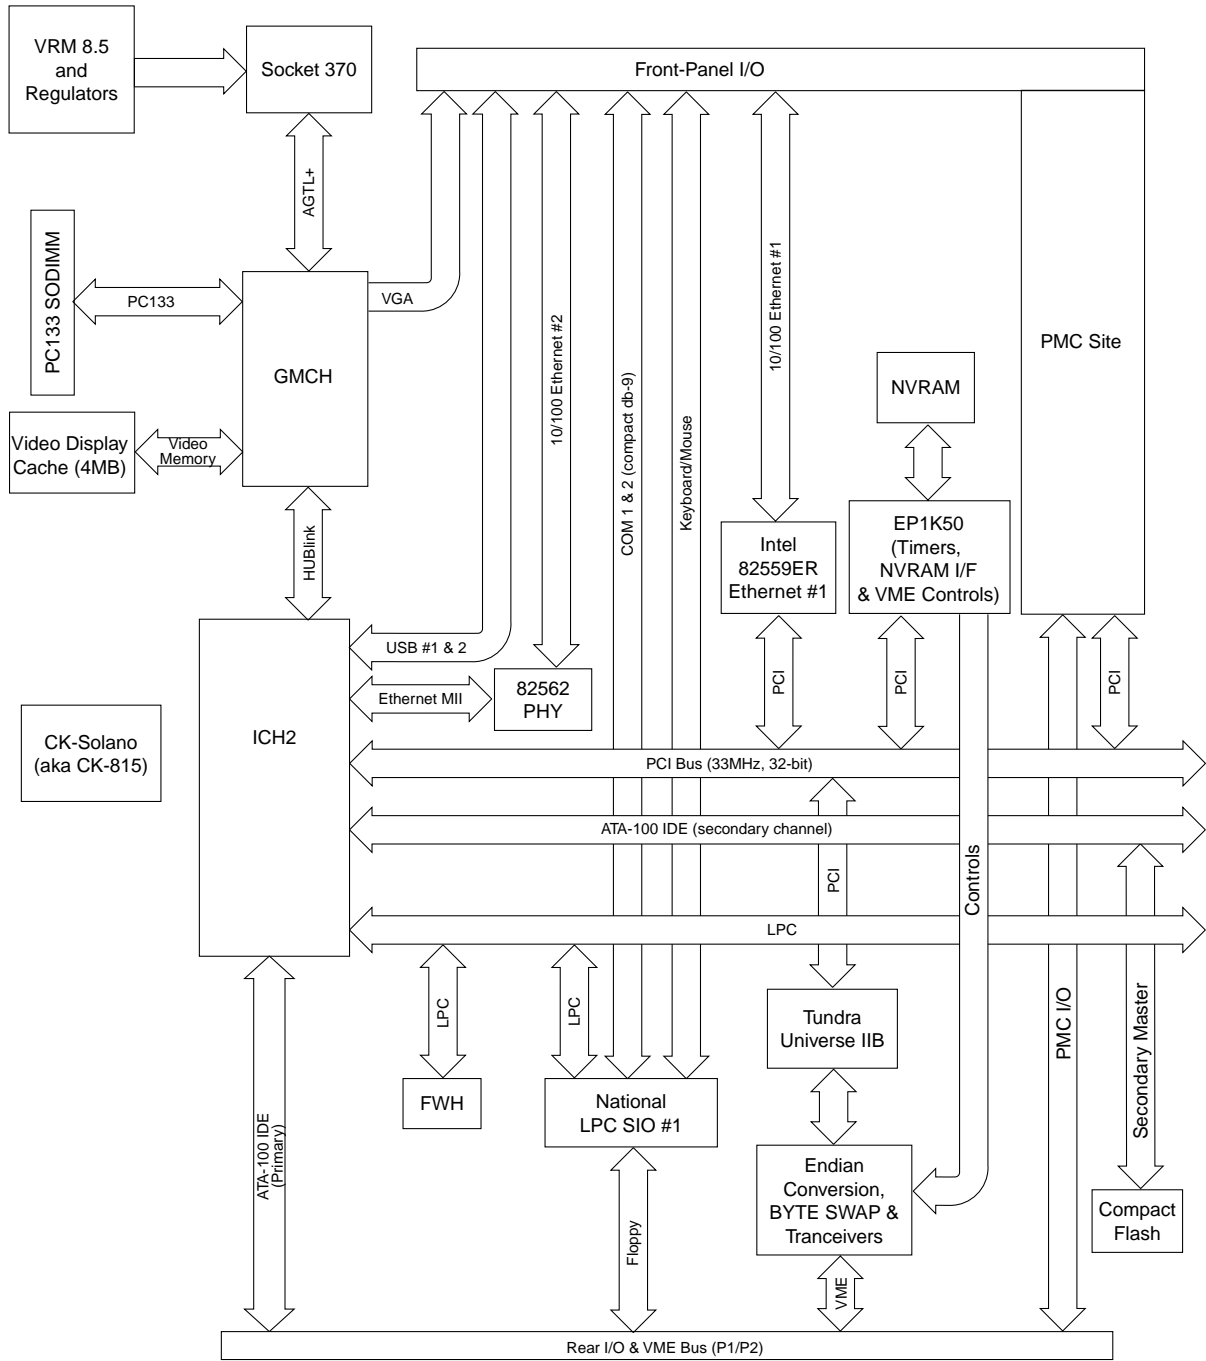

Figure 1 VMIVME-7750 Block Diagram
- Figure 1 VMIVME-7750 Block Diagram 18